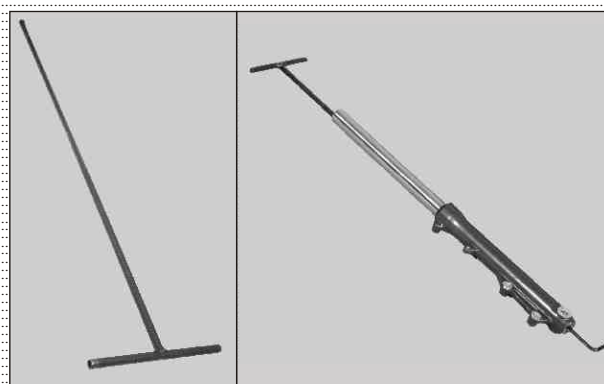

Fig. 1.14
- To hold the front fork piston while removing or assembling piston bolt in GIL make leg assy. (Fig 1.14)